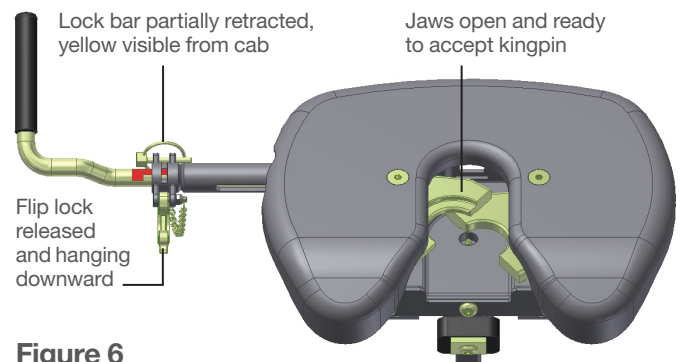

Figure 6
**IMPORTANT:** Failure to reset lock bar in this manner prior to next coupling will not allow the jaws to lock around the trailer's kingpin. See Figure 6 below.